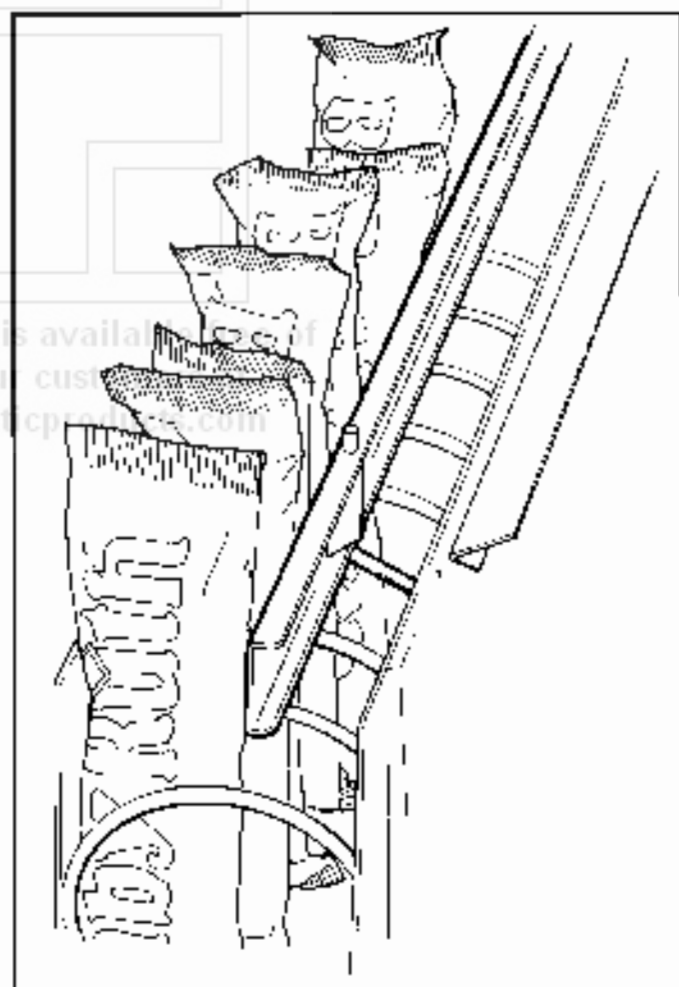

Figure 6. 8 SELECTION SHELF PRODUCT SPACER POSITIONED TO HOLD CANDY UPRIGHT.
- PRODUCT SPACERS & SELECTION SHELF:** The 8-selection shelves are equipped with a product spacer (see Figure 6) that can be pivoted from the right side of each product space. These spacers should be pivoted out to hold the product upright, but not tight against the product. Leave about $\frac{1}{8}$ " clearance between the spacer and the product.